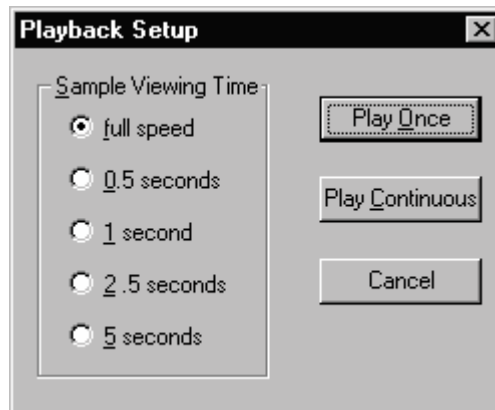

Figure 7-2
2. When you have selected the samples you want to view, select **Playback | Play**. The setup box shown in Figure 7-2 appears.